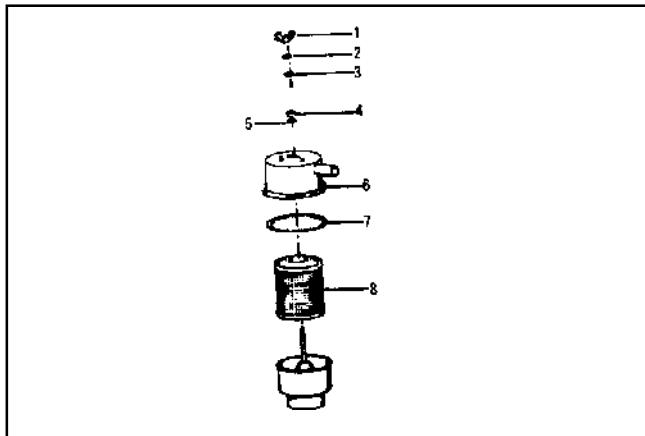

Fig. 5-3. Crankcase Breather-Element type.
1. Remove the wing nut (1 Fig. 5-3), lock washer (2) and plain washer (3).